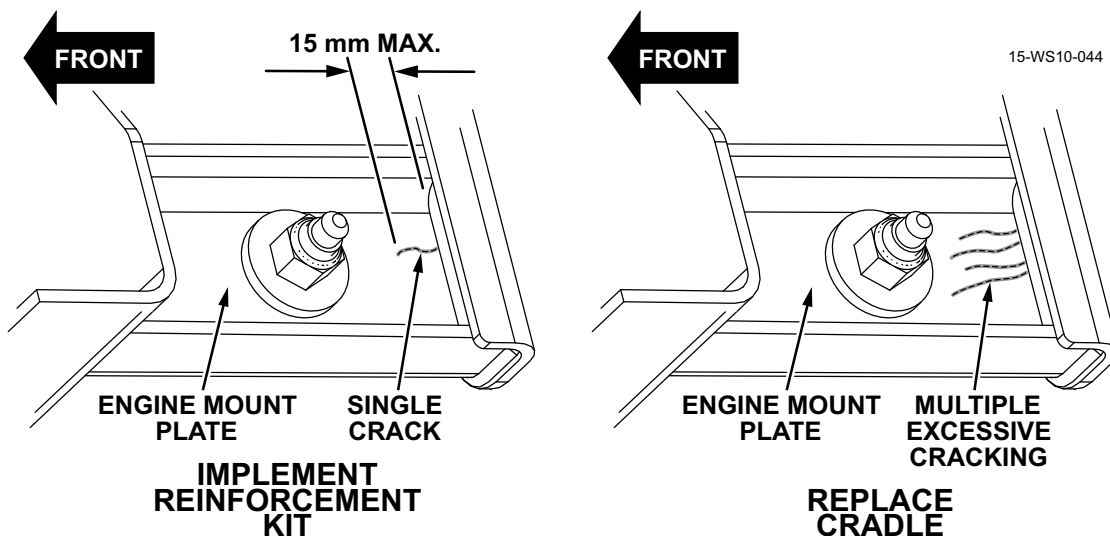

Figure 1: Engine Plate and Bracket Inspection
1. Inspect the Engine Mount Plate and adjacent front and rear welded brackets under the left Engine Mount for damage or cracking. Verify suspected cracks with an appropriate dye kit. If multiple cracks are present, it is recommended to replace Suspension Cradle (See Figure 1).